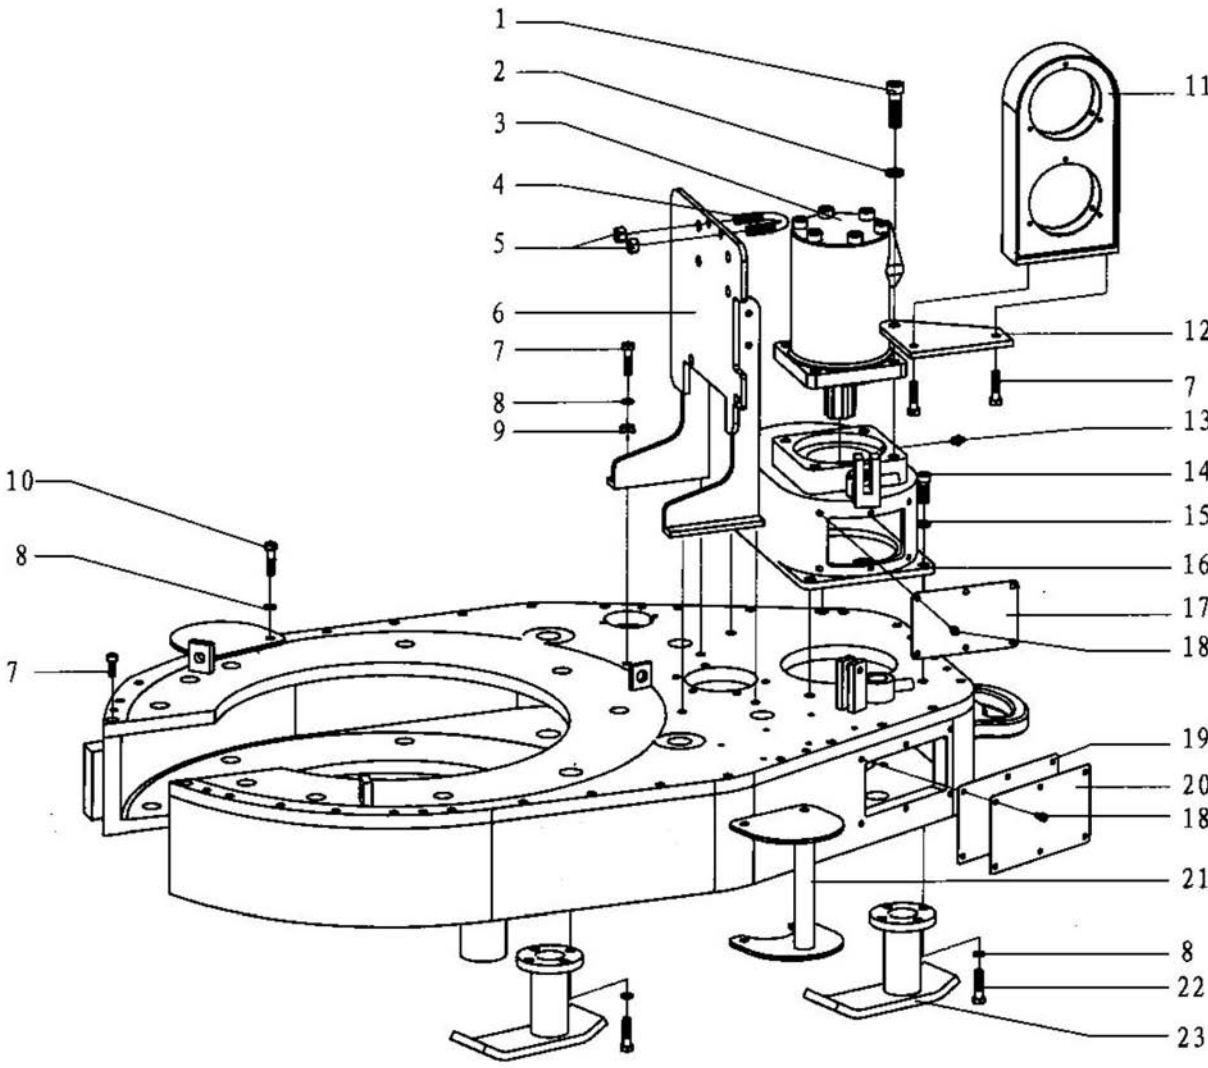

Fig. 8
- Shell and accessories II (Fig 8, Table 5)